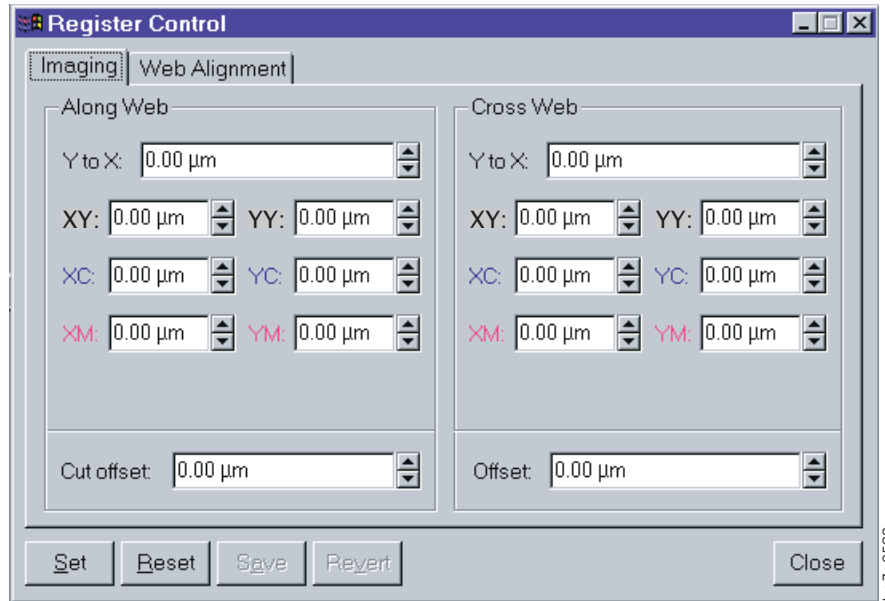

Figure 184. Register Control Window
- Adjust the cutter registration value in the **Cut Offset** box in the **Register Control** window, as shown in Figure 184 on page 212.